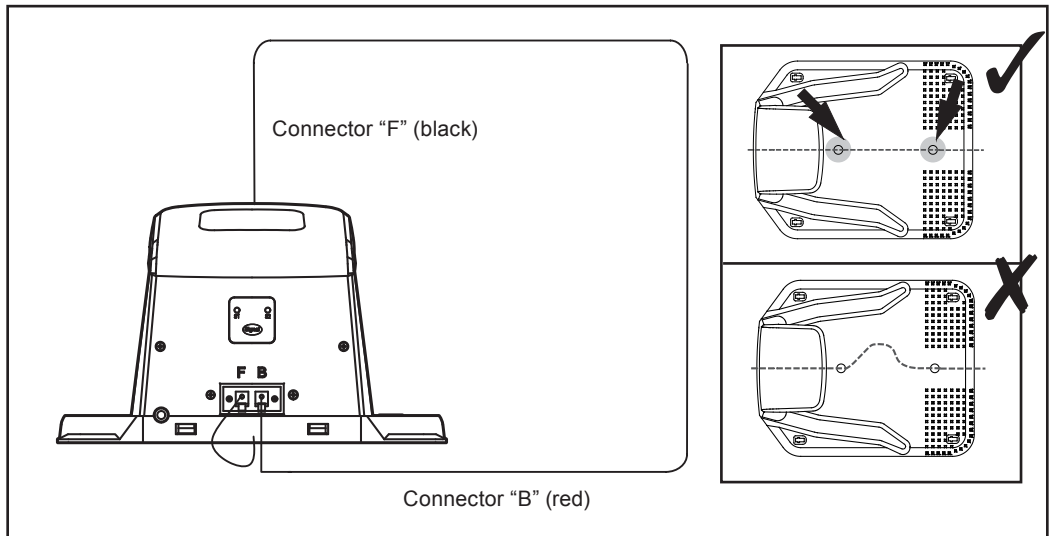

Fig. 21
- Connect the boundary wire (19) properly to the charging station (12):
1. Connect the starting end of the boundary wire (19) to the left (black) boundary wire terminal **F** (front) (16).
2. Position the boundary wire (19) under the middle of the charging station (12).
3. Connect the other end to the right (red) boundary wire terminal **B** (back) (15) (Fig. 21).